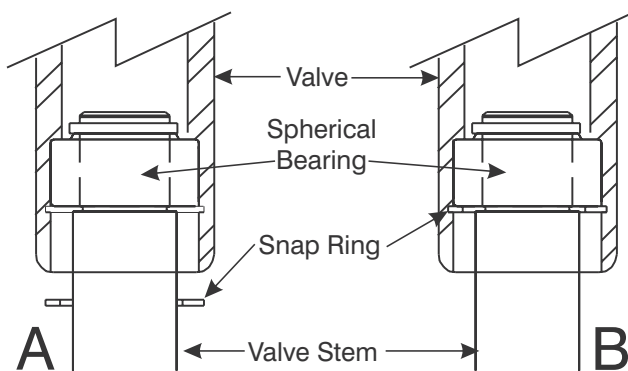

Figure 9-21. Valve Snap Ring Seat
7. The Valve (1) is secured to the Spherical Bearing and Valve Stem by the larger Snap Ring (14), as shown in Figure 9-21.
8. Remove the tape that was applied in paragraph 9.9, step 3, and slide the Snap Ring (14) to the edge of the Valve.
9. Use needle-nose or retaining ring pliers to compress and fit the Snap Ring (14) into the Valve's internal snap ring seat as shown in Figures 9-21 and 9-22.